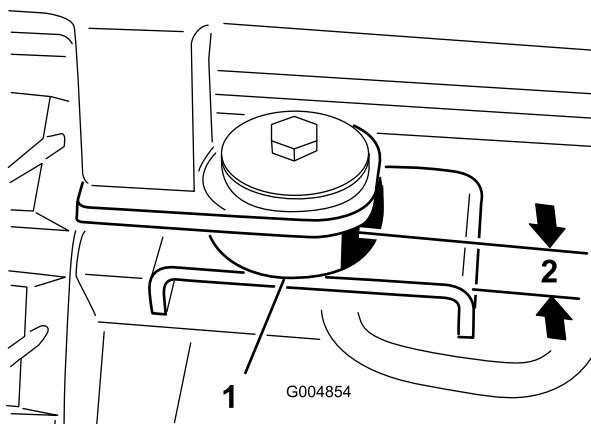

Figure 118
29. At the rear mounting points, secure the cab to the machine with a bolt (1/2 x 3 inches), steel washer (1/2 x 2-1/2 inches), rubber washer (1/2 x 2-1/2 inches) and nut (1/2 inch) (Figure 118). Tighten all four cab mount bolts until the rubber mounts are compressed to a thickness of 2.2 cm (7/8 inch).